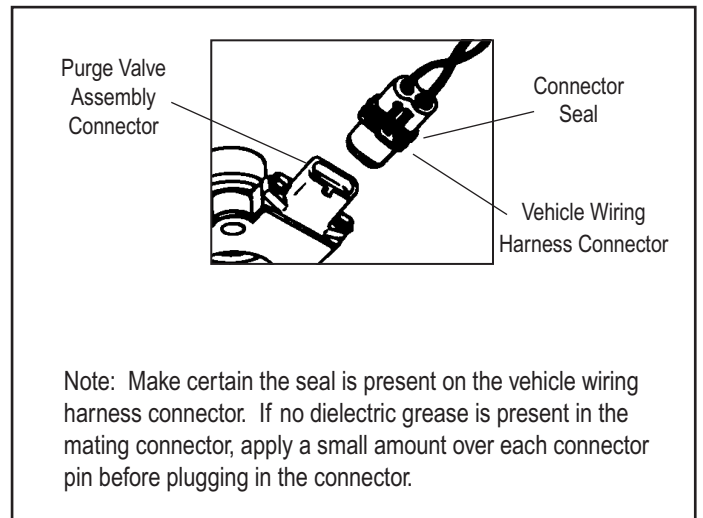

Figure 5 Wiring Harness Connectors
4. Unplug the vehicle wiring harness connector from the heater and thermostat assembly connector on the end cover assembly. *Refer to Figure 5.*
4. Re-connect the vehicle wiring harness connector to the AD-9 air dryer heater and thermostat assembly connector by plugging it into the air dryer connector until the lock tab snaps in place. See Figure 5.
A. Electric Power to the Dryer (Refer to Figure 5)